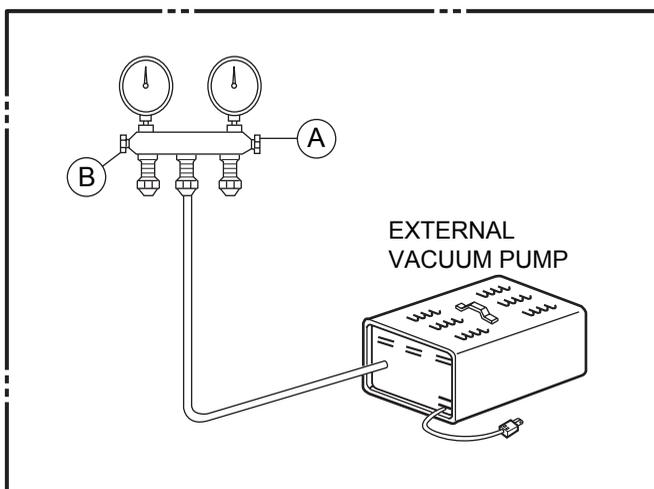

Figure 30A-Pulling Vacuum
- 1) Connect the vacuum pump, as illustrated in Figure 30A.